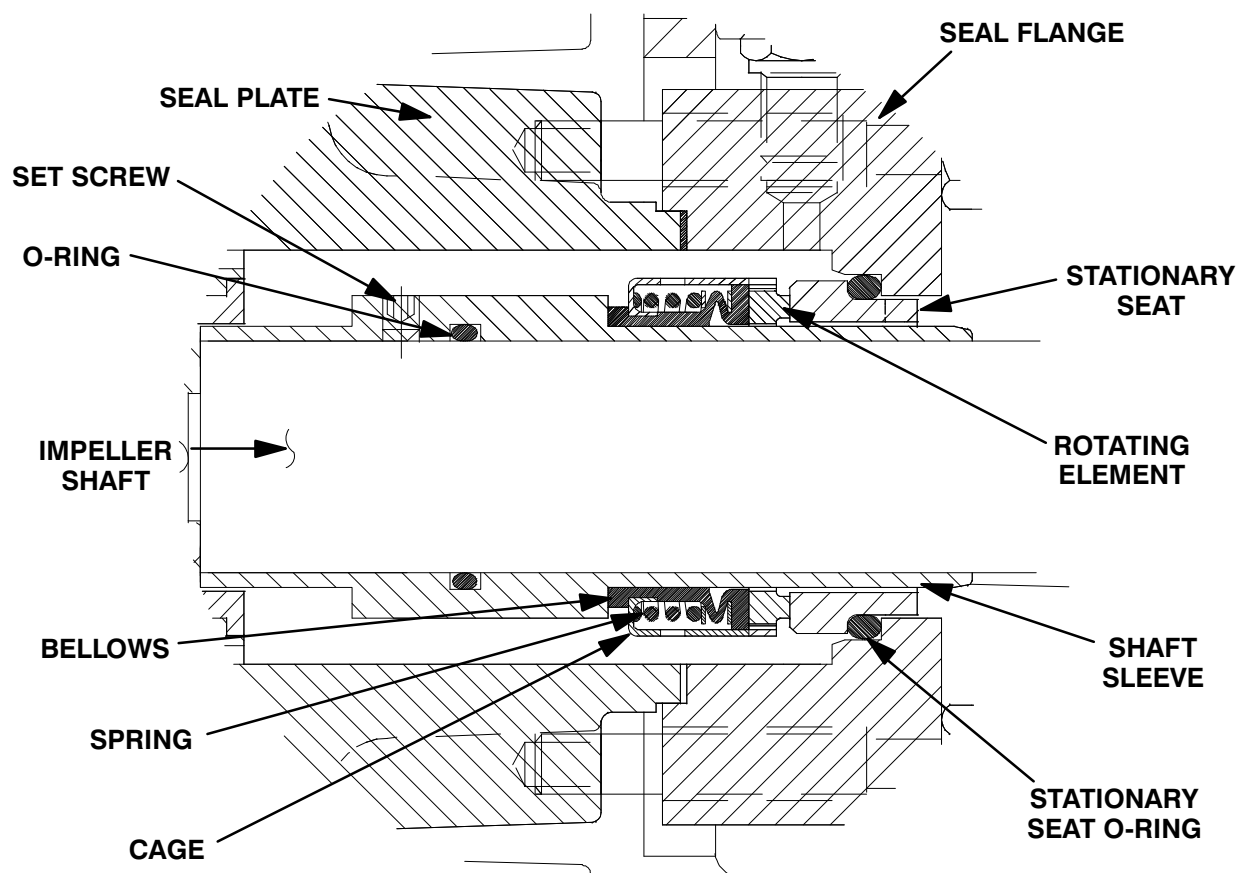

Figure 2. Cartridge Seal Assembly
To ease installation of the seal and seal plate, lubricate the seal sleeve O-ring (40) and stationary seat O-ring with water or a very **small** amount of oil. See Figure 2 for seal part identification.